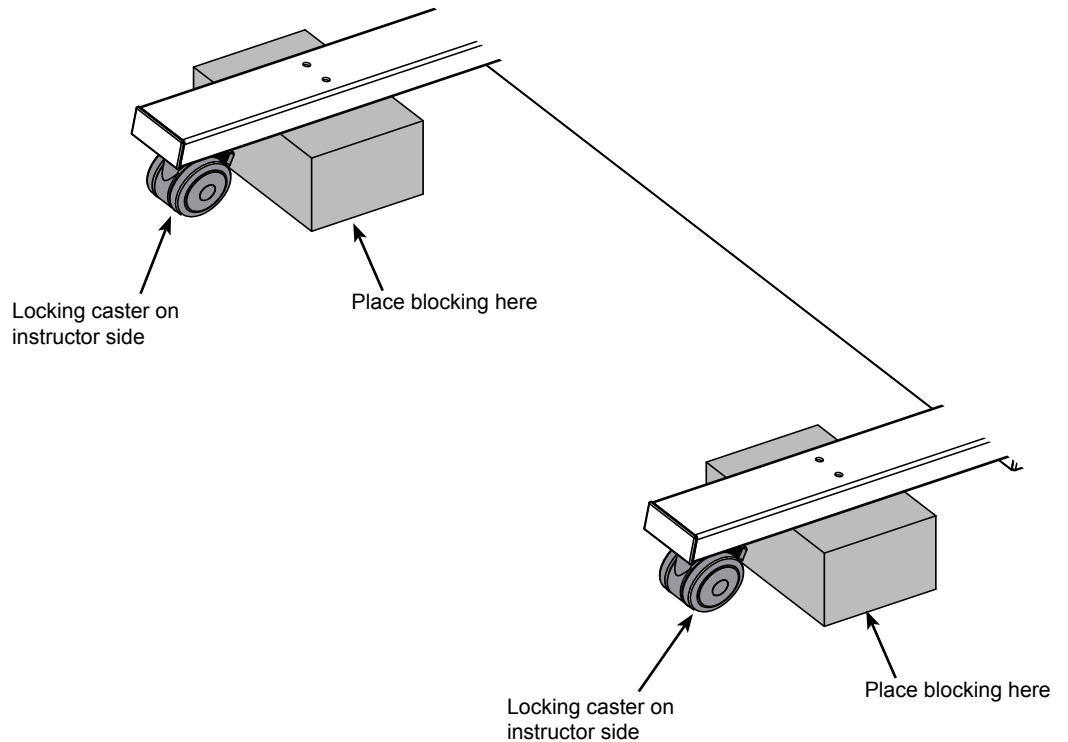

Figure 4B
1. Carefully tip up one side of the lectern using blocking. **Figure 4B.**